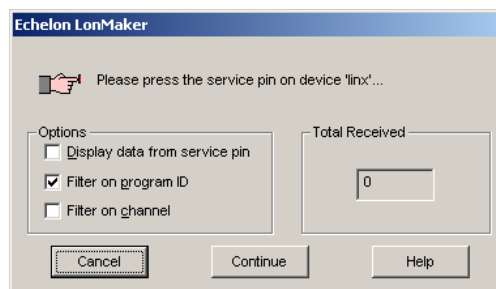

Figure 166: Wait for the service pin from the device.
7. Then the service pin requestor opens as shown in Figure 166. Press the service pin on the replacement device on the correct port. You can also send the service pin using the Web interface (see Section 5.1).